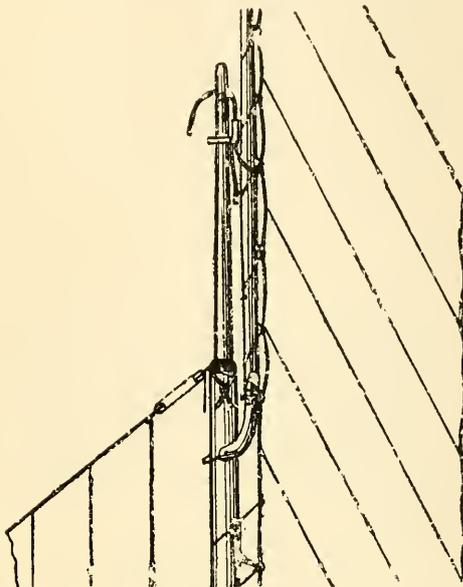

FIG. 332.
*Sliding Gunter.*—A gentleman under the signature of "Far West" says he has used a form of sliding gunter as shown by Fig. 332. It is fitted as shown, the sail goes up and down as a cutter's sail, but with one halyard. On letting go the halyard, the sail falls into the boat in a moment; it is made up on the boom, and covered in the usual way. If the traveller is made as shown it never jams, running up and down easily. The traveller does not come into play under full sail, but when reefed down the yard is sent up to its proper place, and the downhaul, which is spliced to the traveller, hauled taut; this holds the yard to the mast, setting the sail well. The masthead, or pole, should be as long as the distance between the tack and the upper reef cringle; the sail may be further